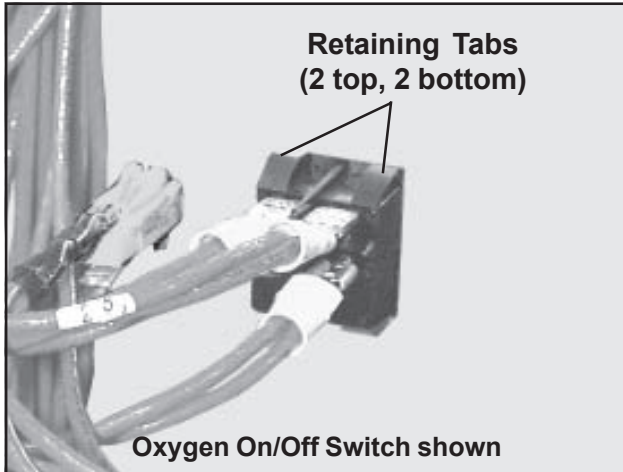

Figure 112. Inside View - Typical On/Off Rocker Switch
5. Pull all the wire spade connectors off the rear of the switch (Figure 112).